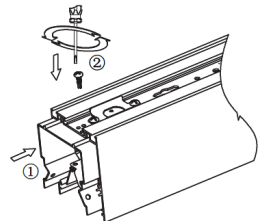

Fig. 16
2. Insert the connection kit on the end of the fixture. Connect it with the supplied screws. (Fig. 16)